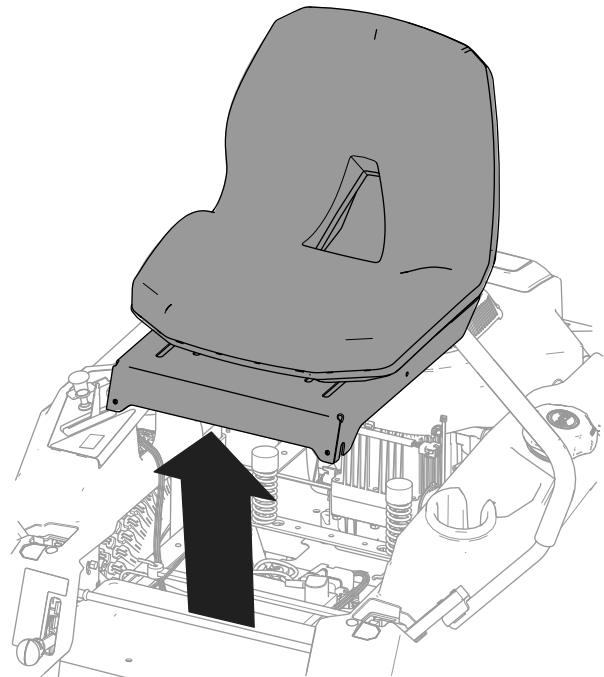

Figure 4
6. Remove the seat assembly from the machine (Figure 4).